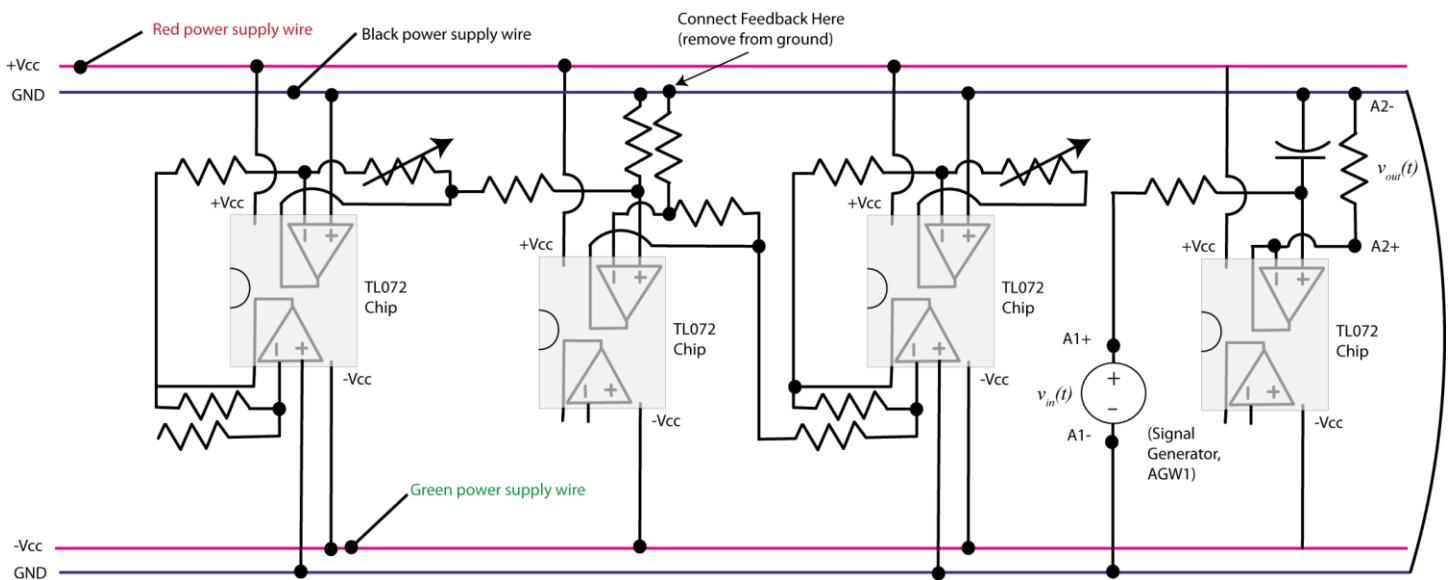
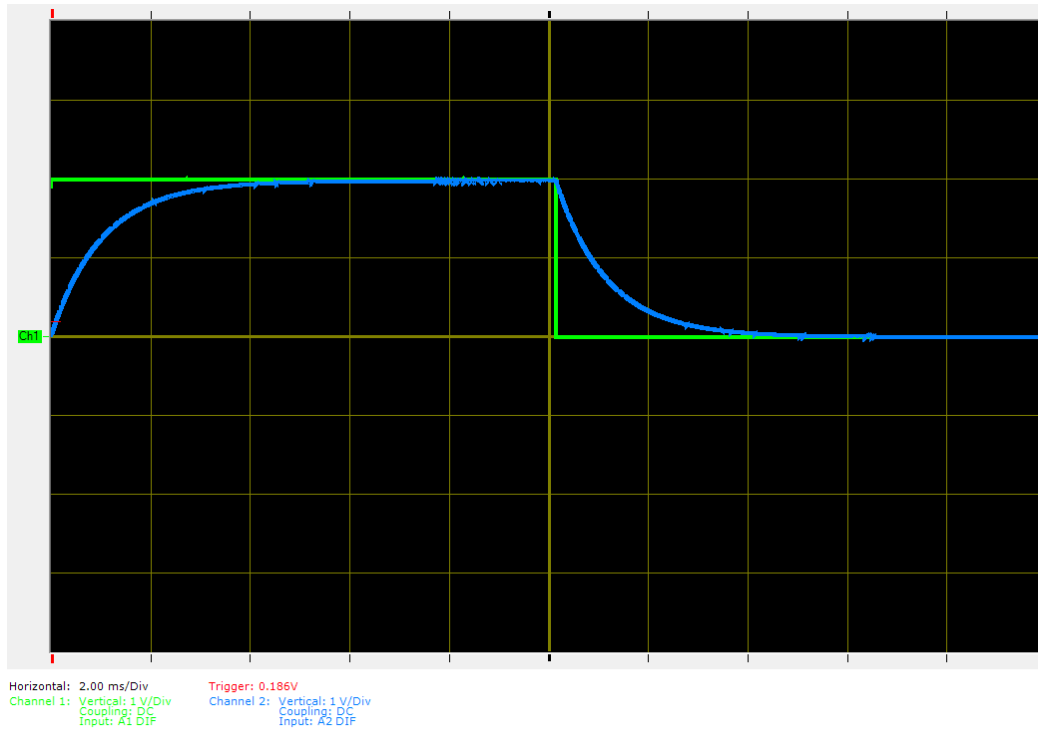
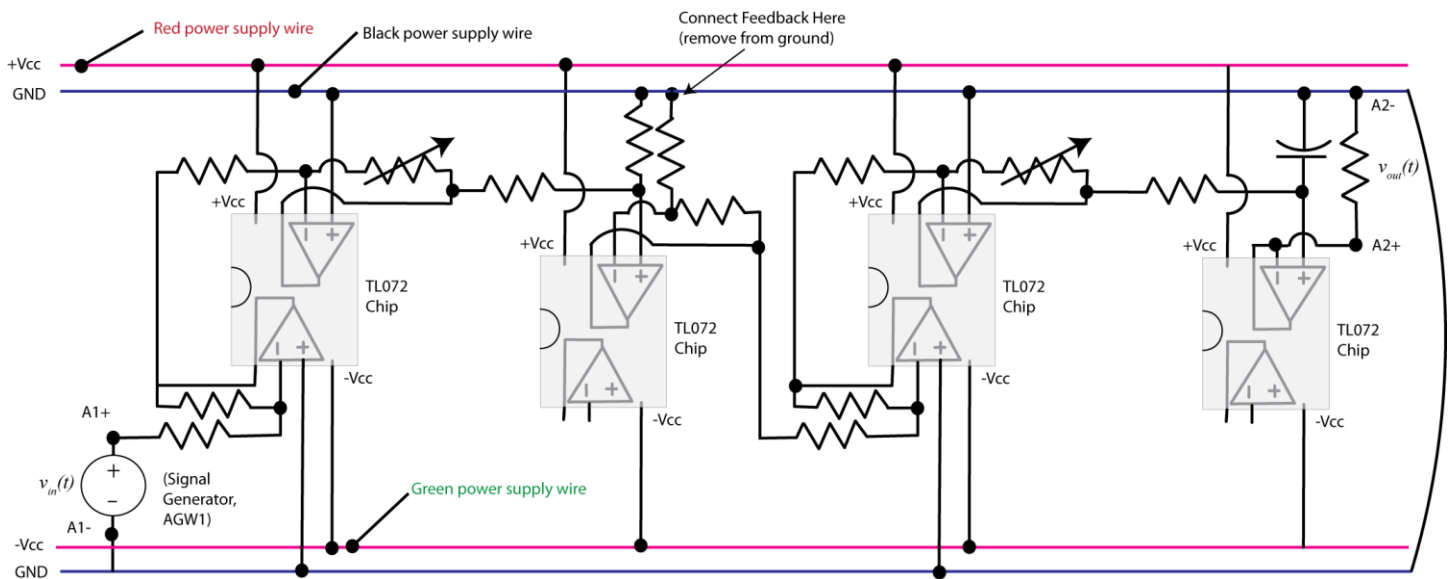
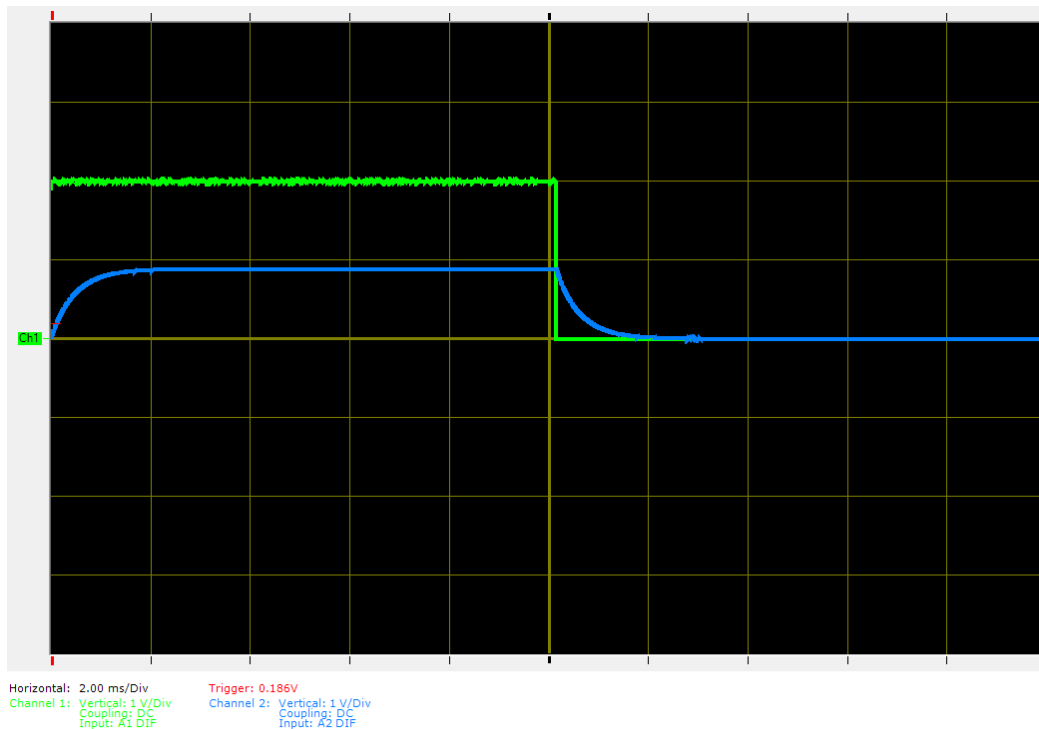

Figure 6. The system we are trying to control, or the plant. There is an isolating amplifier after the plant to avoid loading effects.
Figure 7. Open loop response of the first order plant. The output is measured across the load resistor connected to the isolating amplifier.
Figure 8. The entire system with no feedback .
Figure 10. Closed loop response of the first order system with all gains approximately equal to one.
6) Build the system, or plant, shown as the last stage in Figure 6. In this figure we have included a load resistor to measure the output of the isolation amplifier. *Note that the positive terminal is not connected directly to ground in this circuit!* Measure the output as the voltage across the capacitor. This is the response the system for an open loop configuration. You should get a response something like that shown in Figure 7. Do not disconnect the load resistor yet.
7) Connect all of the subsystems together, as shown in Figure 8, but do not connect the feedback loop. Your output should still be very nearly the same as in Figure 7.
resistances yet. You should get a response like that in Figure 10. Your output should be about half the amplitude of the open loop system (Figure 7) and should have a settling time about half as long (the time constant should be one half of its previous value.) Now we are ready to boogie.